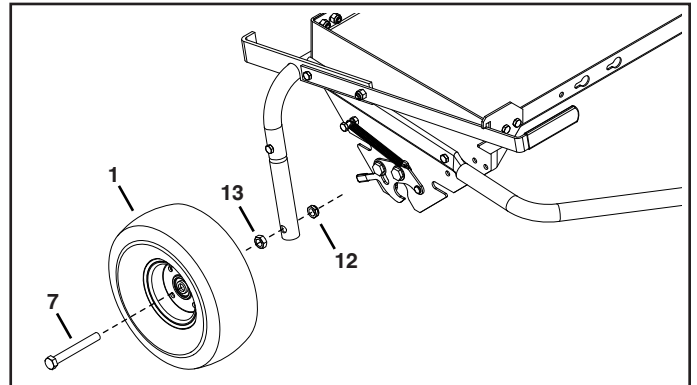

FIGURE 7
14. Attach the wheels (1) to the lift tube assembly using a 1/2 x 4" hex bolt (7), a 1/2" jam nut (13) placed between the wheel and the lift tube assembly and 1/2" a nylock jam nut (12) for each wheel. See figure 7.